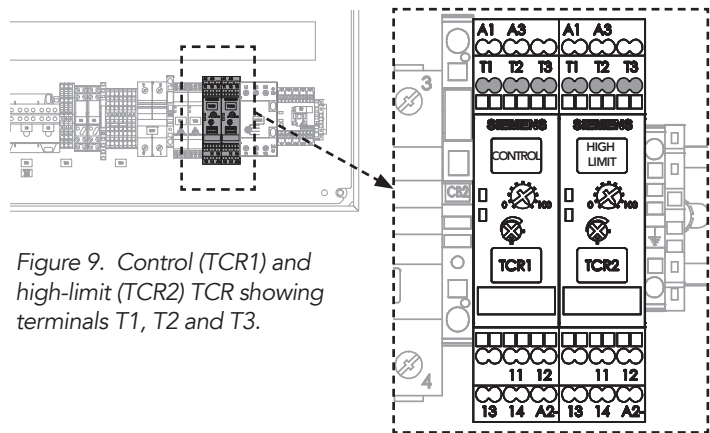

Figure 9. Control (TCR1) and high-limit (TCR2) TCR showing terminals T1, T2 and T3.
2. Using the ohmmeter, measure the resistance between TCR terminals **T1** and **T2**. See Figure 9.